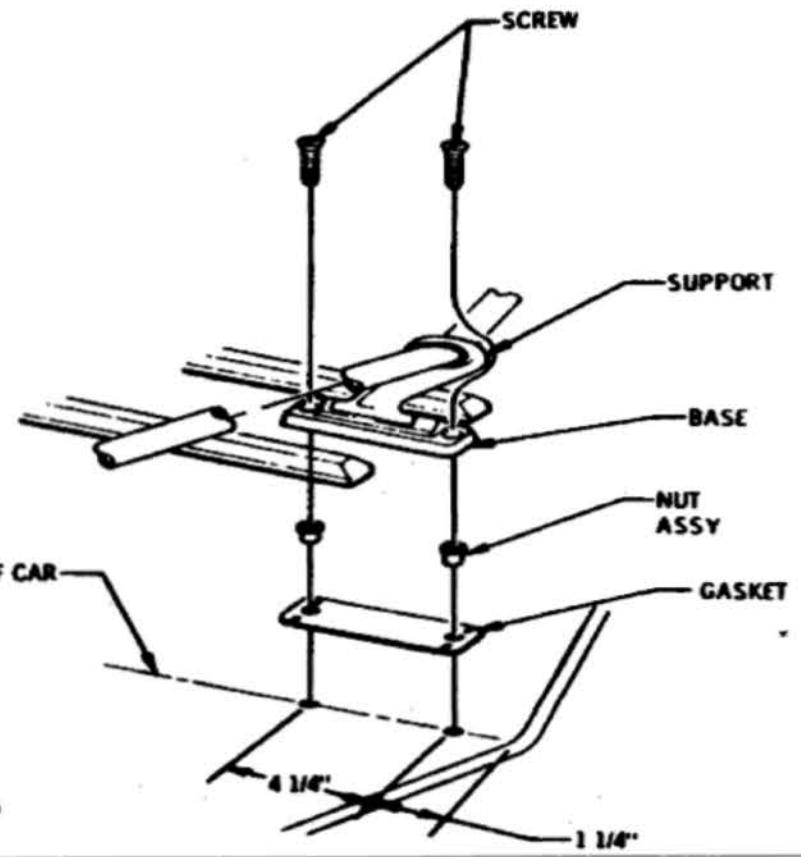

FIG. 7
5. LOCATE, CENTERPUNCH, AND DRILL TWO 1/8" DIA. PILOT HOLES FOR FRONT CENTER SUPPORT. THEN DRILL 1/2" DIA. HOLES THROUGH THE 1/8" DIA. PILOT HOLES, SEE FIG. 7. BE SURE TO USE A STOP ON THE DRILL TO PREVENT PIERCING THE HEADLINING. DE-BURR ALL HOLES.